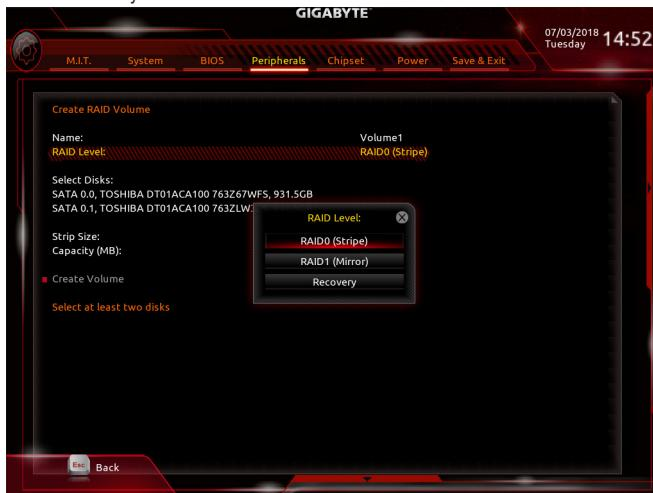

Figure 8
On the Intel(R) Rapid Storage Technology menu, press <Enter> on **Create RAID Volume** to enter the **Create RAID Volume** screen. Enter a volume name with 1~16 letters (letters cannot be special characters) under the **Name** item and press <Enter>. Then, select a **RAID level** (Figure 8). RAID levels supported include RAID 0, RAID 1, RAID 10, and RAID 5 (the selections available depend on the number of the hard drives being installed). Next, use the down arrow key to move to **Select Disks**.